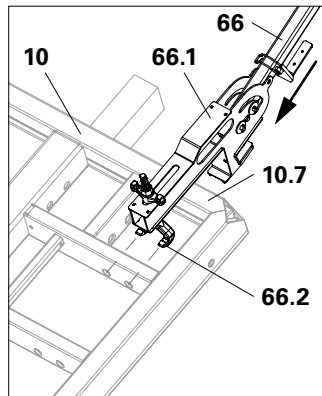

Fig. A7.25a
2. Insert double hooks (66.2) of the Handrail Post Holder (66) into the connecting holes of the panel.
- Horizontal strut (Fig. A7.25a + A7.25b)